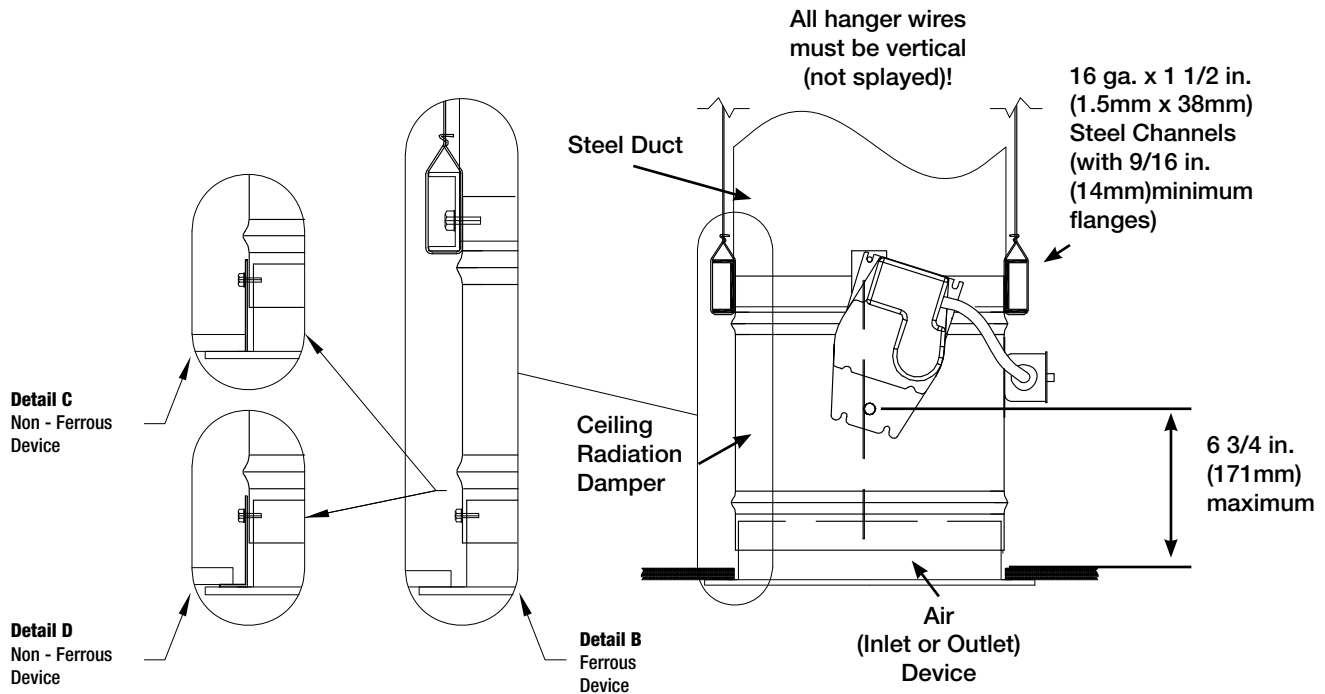

Figure 5
Ceiling radiation dampers and air inlet or outlet devices may also be supported directly from the structure above using one or more of the methods described in Figures 5, 6, 7, or 8. When channels are to be used as support, they must be 16 ga. x 1½ in. (1.5mm x 38mm) steel channels with 9/16 in. (14mm)
1. Ceiling radiation damper may be connected directly to the air device neck and then the duct drop connected to the damper (See Detail B, Figure 5).
1. A steel duct drop extension should extend from the damper to the bottom surface of the ceiling membrane and the opening in the ceiling membrane (see Page 2, paragraph 3) should be equal to the outside of the duct drop (See Detail C, Figure 5). Models CRD-501 may be installed as shown in **Figure 5**.
2. A steel angle should be attached to the bottom of the of the ceiling radiation damper and span the gap from the ceiling radiation damper to the bottom of the ceiling membrane. The steel angle should overlap the ceiling membrane (See Detail D, Figure 5).
Models CRD-501 may be installed as shown in **Figure 5**.